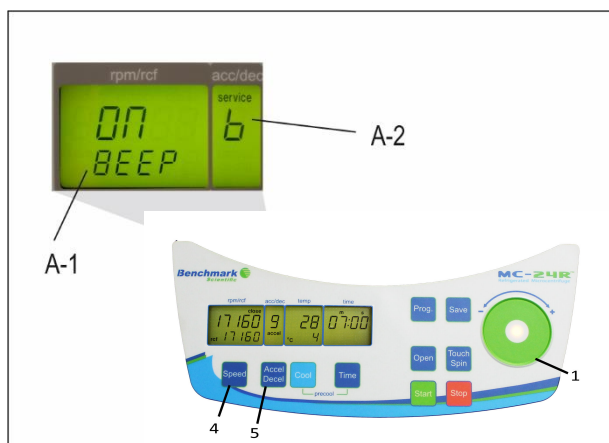

Figure 10
Proceed as illustrated, under point 1.8.1, to enter this program mode, press the key, "accel/decel" (5). In the display; "accel/decel" (A-2) flashes the word, "service". Select the letter, "b" with the control field (1). As a result, appearing in the display, "rpm/rcf" (A-1), the word "ON/BEEP". By pressing the key, "speed" (4), the keyboard sound (On) or (Off) can be turned on, with the control field (1), (see Figure 10).